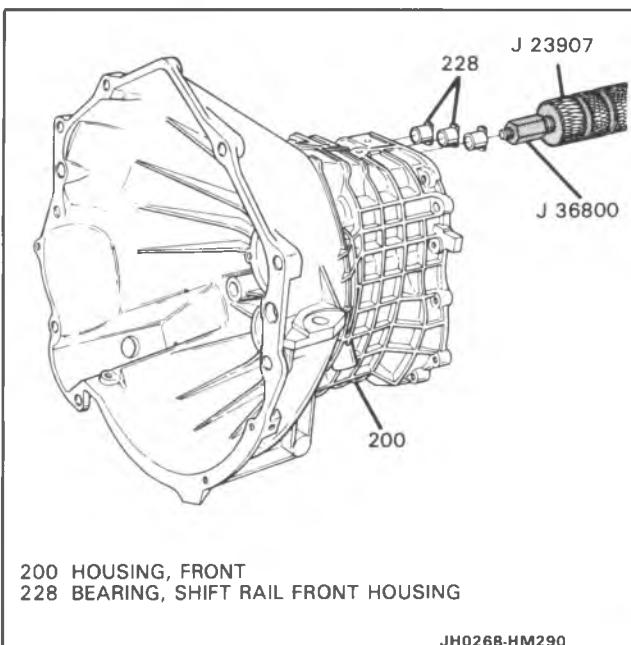

Figure 45 Removing Shift Rail Bearings
1. Ball bearing outer race (216), using brass drift.
2. Three shift rail front housing bearings (228), using J 36800 and J 23907 (Figure 45).